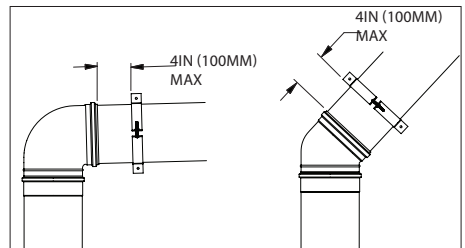

Figure 22
- Elbows and Tees must be supported by a Wallstrap within 4in (100mm) after the Elbow or Tee section. **(Fig.22)**